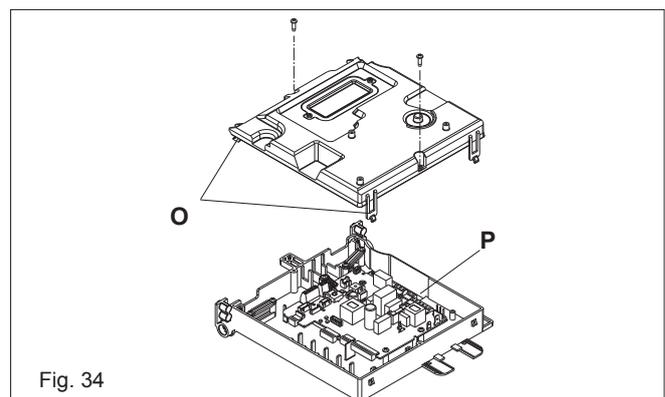

Fig. 34
7.12 PRINTED CIRCUIT BOARD (FIG. 34)